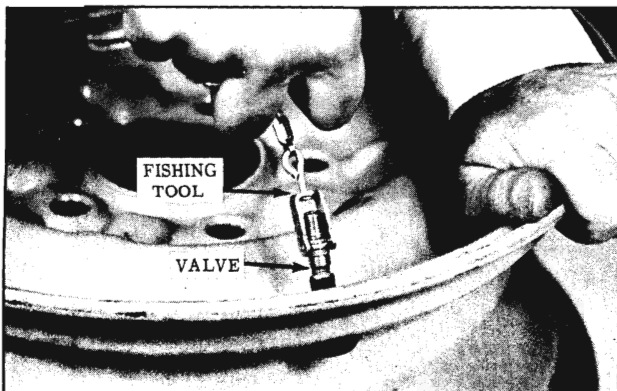

Fig. 5-42 Installing Valve
3. Insert the "snap-in" type rubber valve through the hole in rim as far as it will go, then pull the valve through the hole with a tire valve fishing tool until the valve snaps into position. (Fig. 5-42)